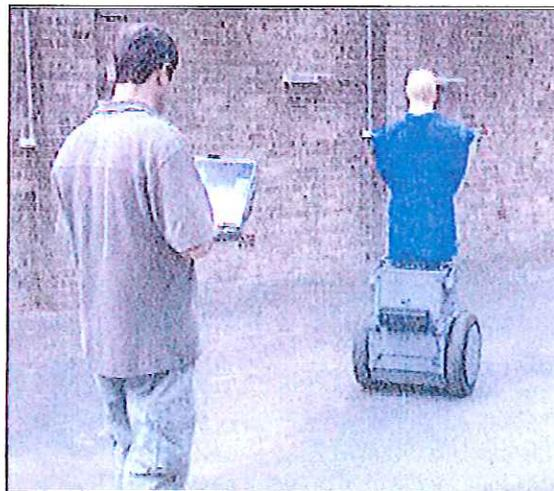

Figure 5. RHTT Operator Laptop.
f. The operator laptop (Figure 5) is a ruggedized portable personal computer (PC) that allows programming and operation of the RHTT.